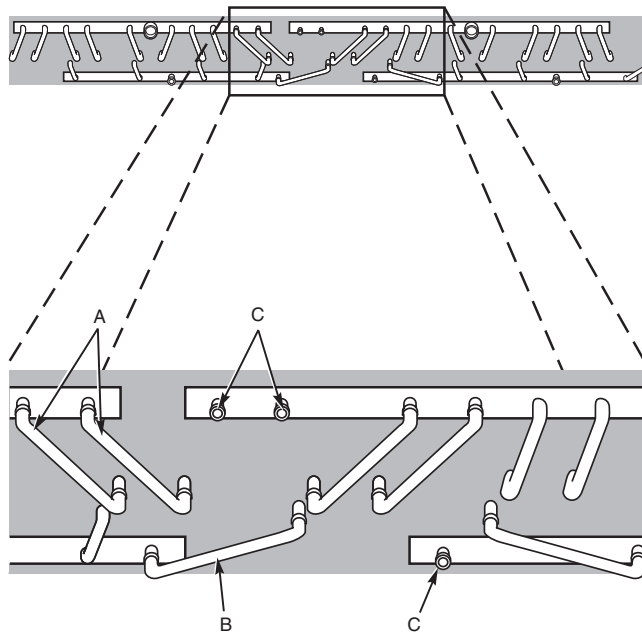

Fig. 8 — Parts Removed from 09DK028,034 (50/50%) Unit for 60/40% Circuiting
- a. Both $\frac{3}{8}$ -in. diam tube nipples connecting the left hot gas header to the coil. See Fig. 8, Item A.
- b. The $\frac{3}{8}$ -in. diam tube nipple connecting the left liquid header to the coil. See Fig. 8, Item B.
- c. Caps, where 2 are located on the right gas header, and one is located on the right liquid header. See Fig. 8, Item C.